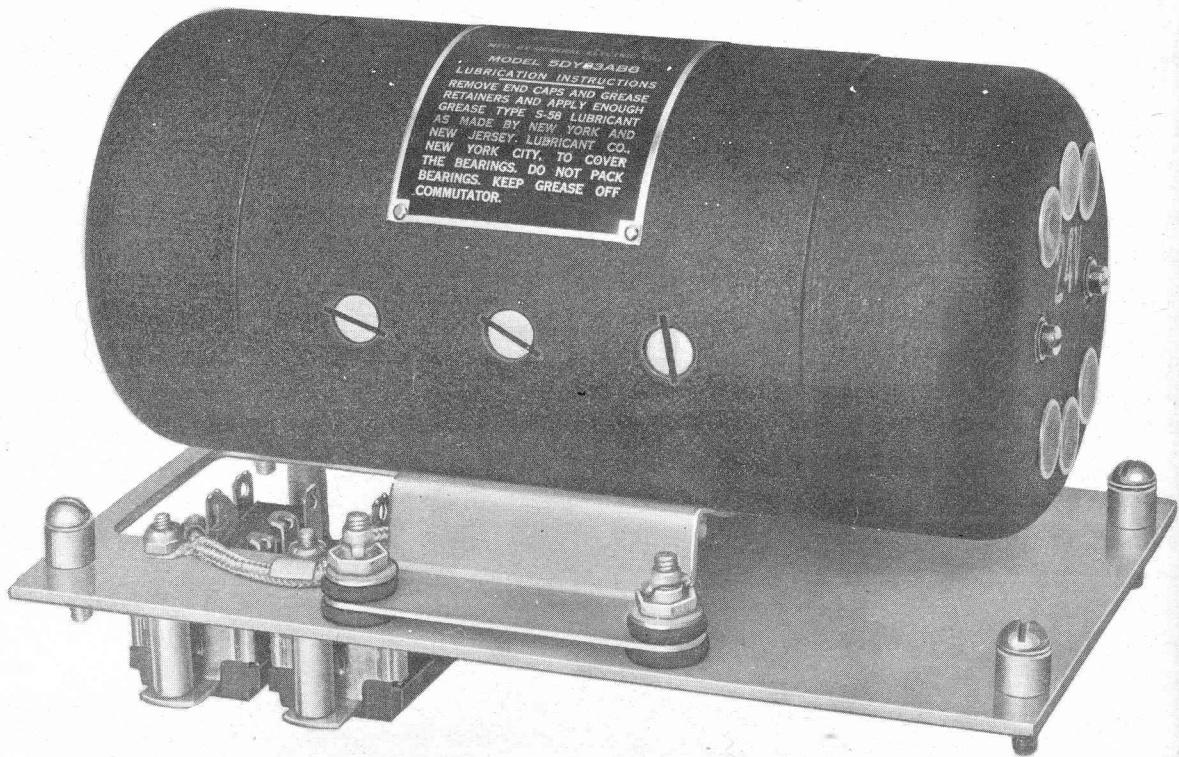
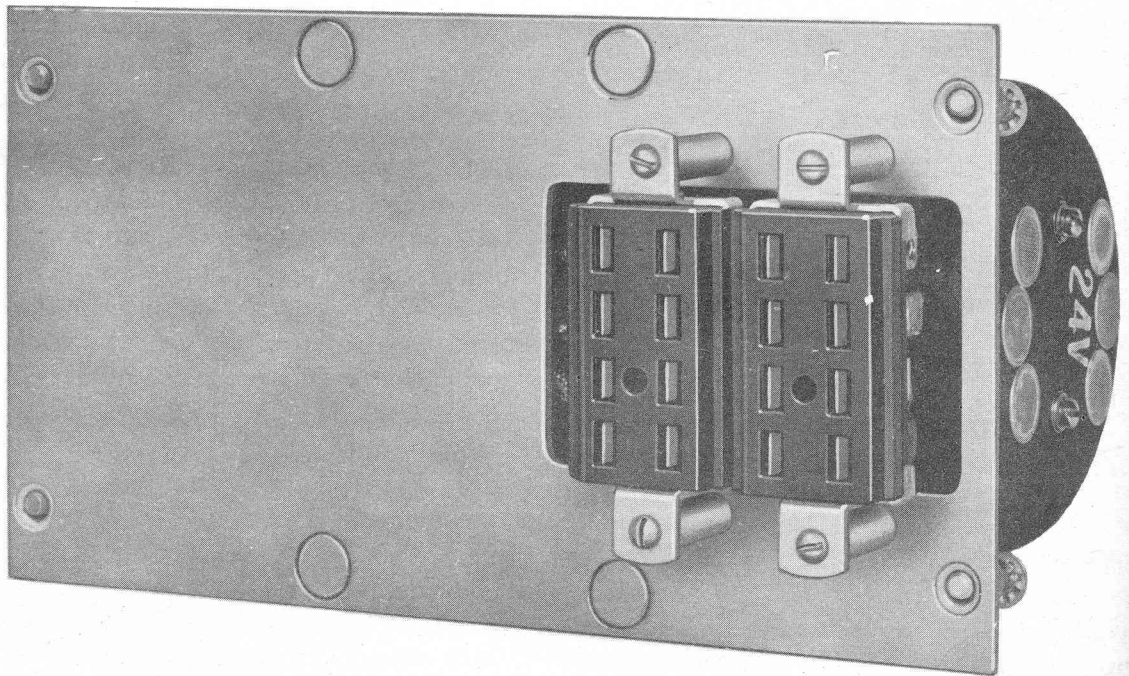

Fig. 22a. Dynamotor DM-35-(*) or Dynamotor DM-37-(*)
Fig. 22b. Dynamotor DM-35-(*) or Dynamotor DM-37-(*): Sub-base View
b. Dynamotors DM-35-() and DM-37-(*) .* Each of these dynamotors provides approximately 625 volts for operation of the transmitter. The dynamotors are of similar appearance; and two views are shown in Fig. 22a and Fig. 22b. Except for screened breathing vents in the end covers, the dynamotors are totally enclosed. The screened holes have been omitted in later dynamotors to reduce the entrance of dust or sand. This does not affect the power rating of the dynamotors. Their armatures are dynamically balanced and are supported by two single-race ball bearings. Both dynamotors are compound wound. The primary and secondary are wound in the same armature slots, but the two windings are brought out to separate commutators mounted on opposite ends of the armature shaft.